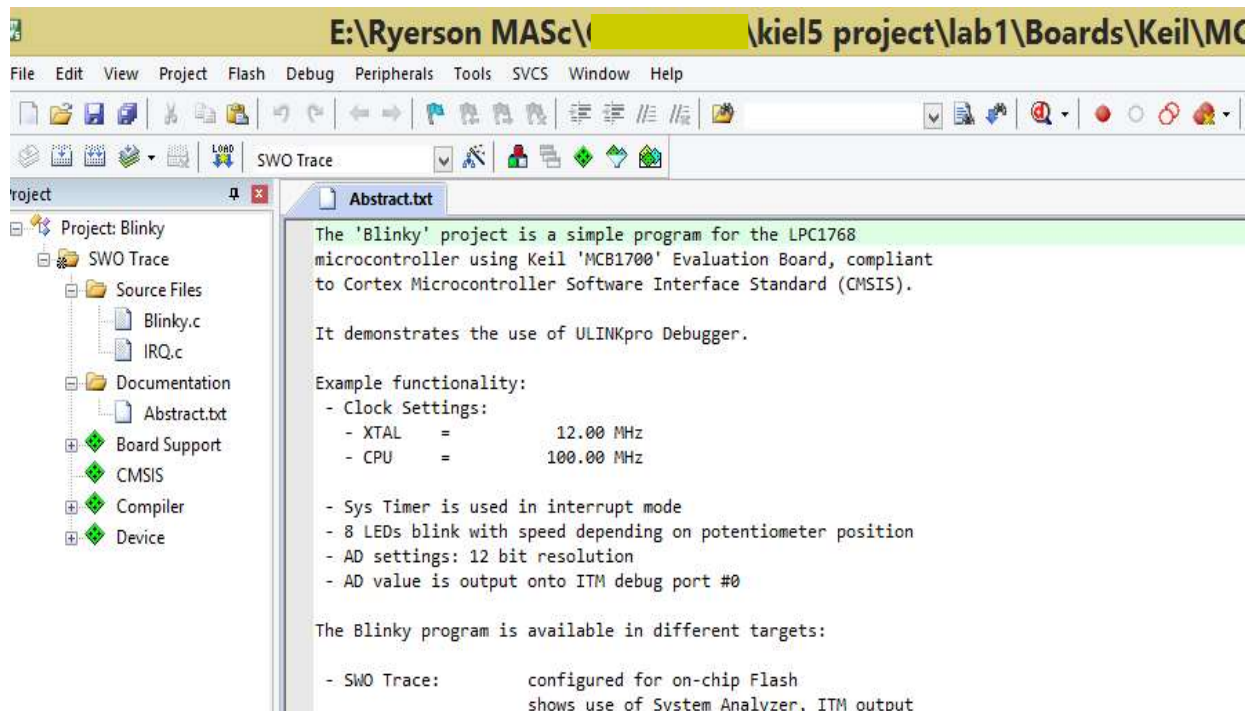

Figure 13: Copy Blinky to Lab1 folder
4. Create New Directory for COE718 Labs and a subfolder for Lab1. Copy to that folder as shown in Figure 13.